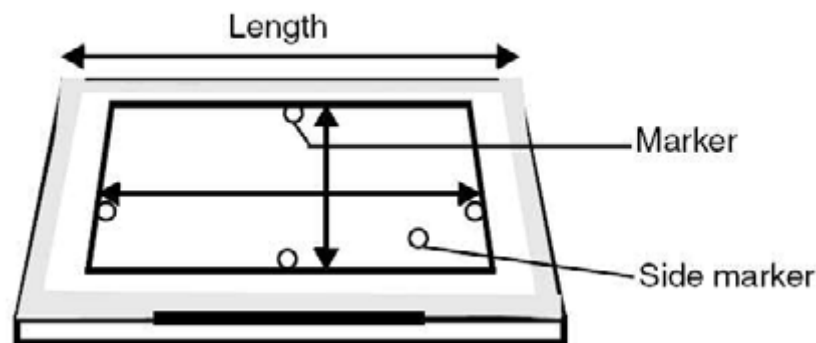

Fig. 34: Coincidence_light and radiation
- Apply radiopaque markers (e.g. washers, coins) as shown in (Fig. 34 / p. 87). Use one washer as a side marker.